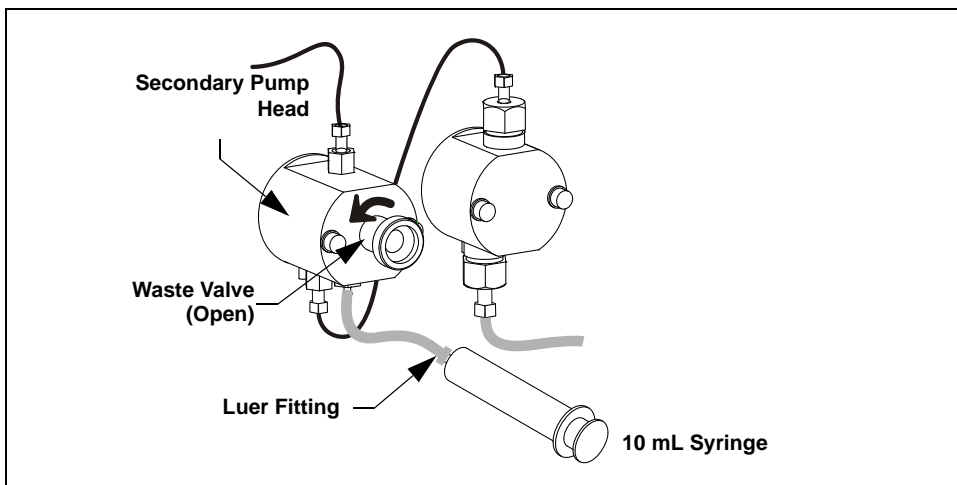

Figure 4-4. Priming the Eluent Lines
2. Disconnect the waste line from the luer fitting on the secondary (left) pump head (see Figure 4-4).
3. Connect a 10 mL syringe (P/N 079803) to the luer fitting (see Figure 4-4).
4. Open the waste valve on the secondary pump head by turning the knob one-half turn counterclockwise (see Figure 4-4).